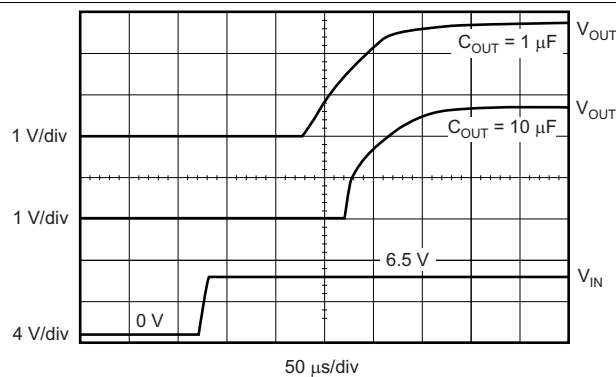

Figure 29. Turn-On Response
Note that for fastest startup, apply V_{IN} first, then the enable pin (EN) driven high. If EN is tied to IN, startup is somewhat slower; see Figure 29 in the *Typical Characteristics* section. The quick-start switch is closed for approximately 135 μ s. To ensure that C_{NR} is fully charged during the quick-start time, use a 0.01- μ F or smaller capacitor.